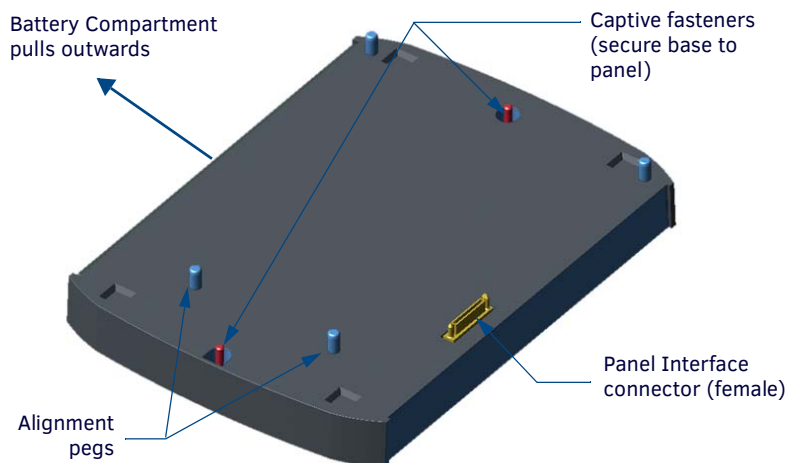
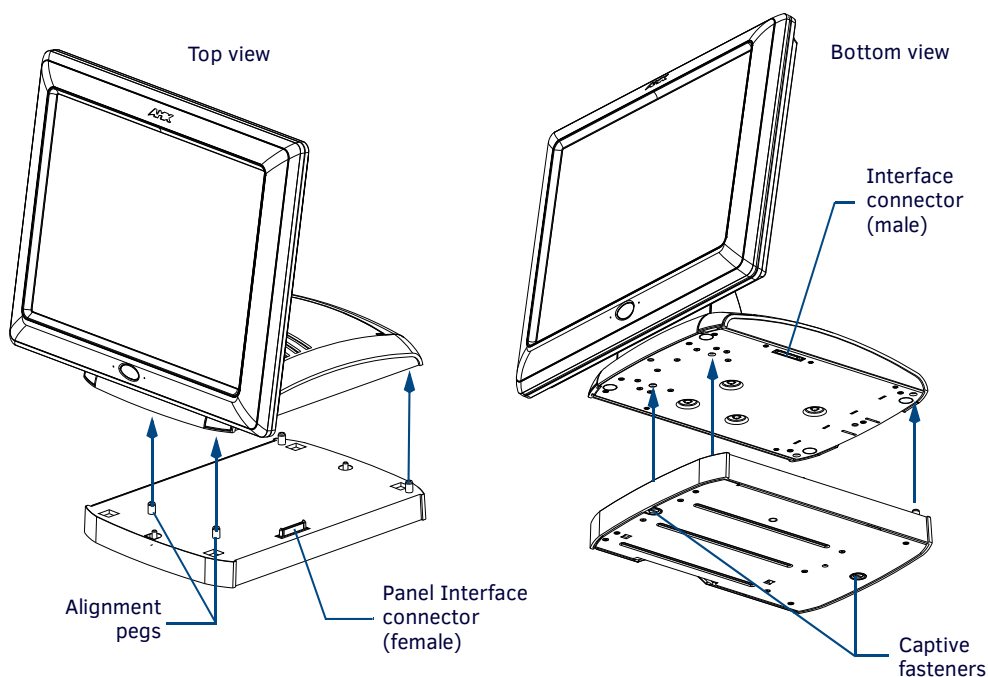

FIG. 28 NXA-BASE/B showing Panel Interface and connector locations
FIG. 29 NXA-BASE/B shown aligning with NXT panel
3. Verify the alignment of the Panel Interface connectors between the panel (male connector) and base (female connector) (FIG. 28).
4. Carefully place the Modero panel over the base alignment pegs (FIG. 28 and FIG. 29).
5. Gently apply downward pressure until the panel is securely mounted to the battery base (FIG. 29).